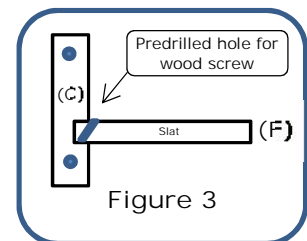
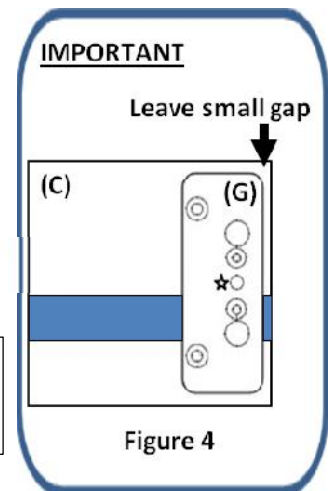

Figure 3
Figure 4
2. Secure bed fitting plates (G) to bed rails (C) using 3x 1-1/4" screws for each plate (refer to Figure 2). **Important:** a small gap between edge of bed fitting plate and bed rail end is needed to make the bed rail connect tightly to bed end (refer to Figure 4).
4. Insert 4x bunk bed pins (I) into the predrilled holes of the lower bed ends. Place upper bed ends onto the lower bed assembly ensuring that the bunkbed pins are captured in the predrilled holes in the upper bed ends.
6. Insert fixed guard rail (D) into upper bed ends
8. Bed fittings are connected properly when locking holes ★ are aligned; add 1x 1-1/2" (K) screw through each locking hole.
9. Slide nine slats (F) into grooves of bed rails for each bed positioning each with equal spaces no greater than 3-1/2" in between and secure each slat with 2x 1-1/2" screws using pre-drilled holes at the ends (refer to Figure 3).